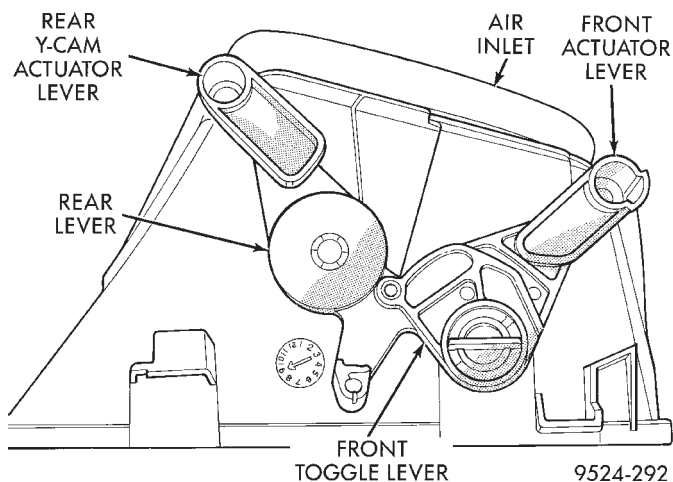

**Fig. 80 Rear Y-Cam Actuator**
- (5) Remove rear Y-cam actuator lever (Fig. 80).
- (6) Turn front toggle lever until it lines up with slots on housing.
- (7) Pull straight up on toggle lever and slide toggle lever from underneath front actuator lever (Fig. 80).
- (8) Remove front toggle lever (Fig. 80).
- (9) Remove Y-cam rear lever (Fig. 80).